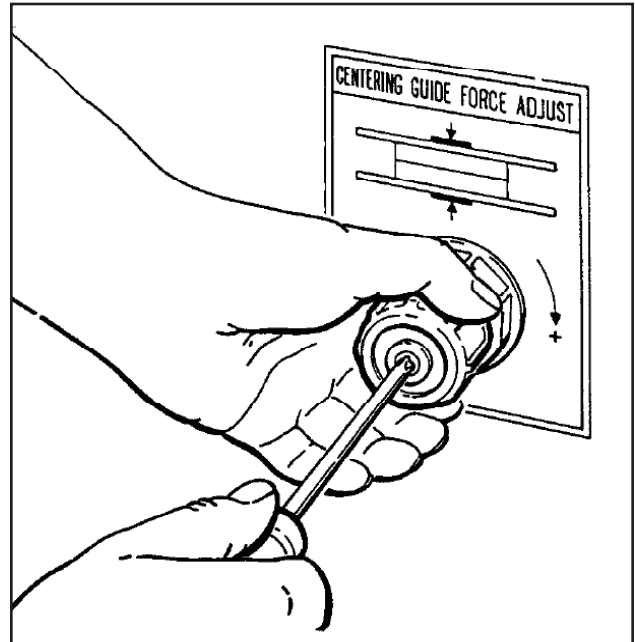

Figure 7-15– Air Regulator, Centering Guides
**6. Air Pressure Regulator, Centering Guide Force Adjustment – Figure 7-15**